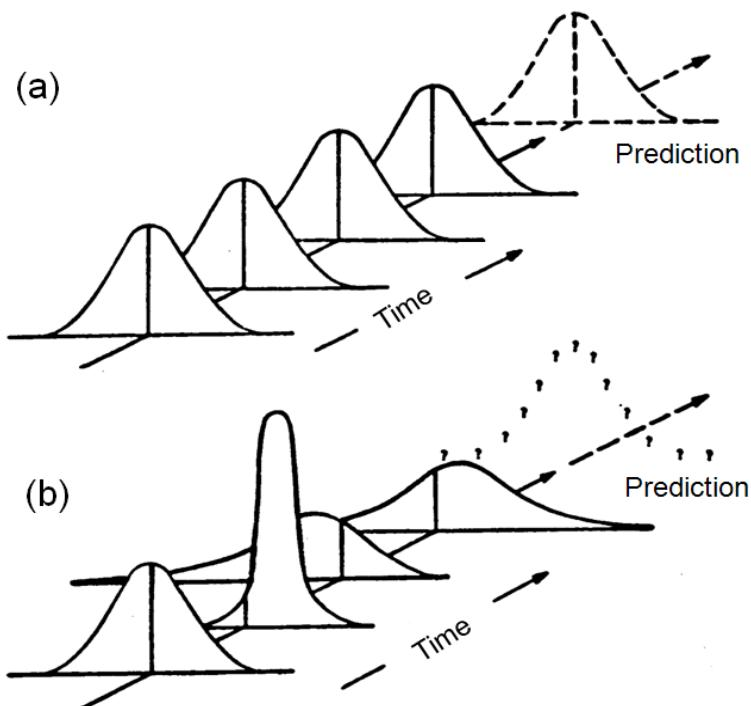

Figure 1: Process variability observed at certain time internal
- [b] Figure 1 shows a process variability observed at certain time interval.
- Discuss the process quality by comparing Figure 1(a) and 1(b).